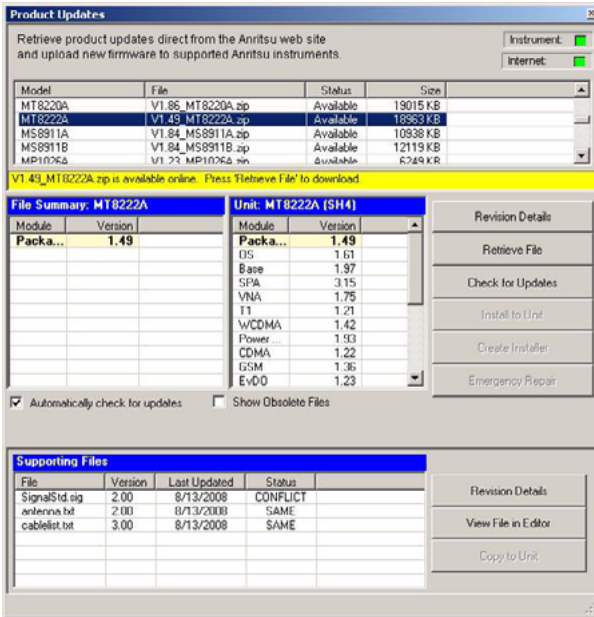

Figure 1-9. MST Product Updates Window
6. In the “Product Updates” window, scroll down to select MT8222A. Refer to Figure 1-9.
8. In the top right section of the Product Updates window, make sure that both the Instrument and the Internet lights are green, as shown in Figure 1-9 (upper-right corner).